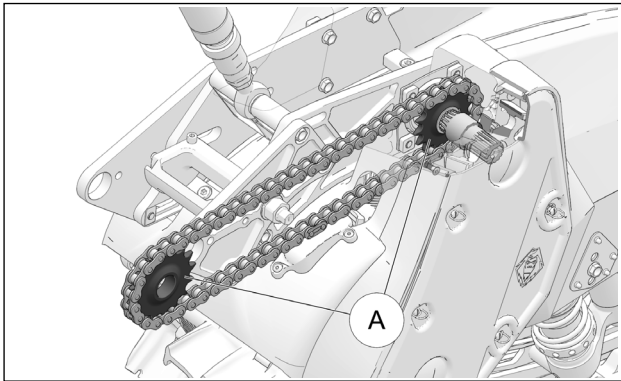

Figure 46
Inspect the chain drive sprockets (A) for wear. If the chain is set to the required tension (3-6 mm [1/8-1/4 in.] deflection) but misses or skips over some of the driving teeth, the sprockets must be replaced. See Figure 46.